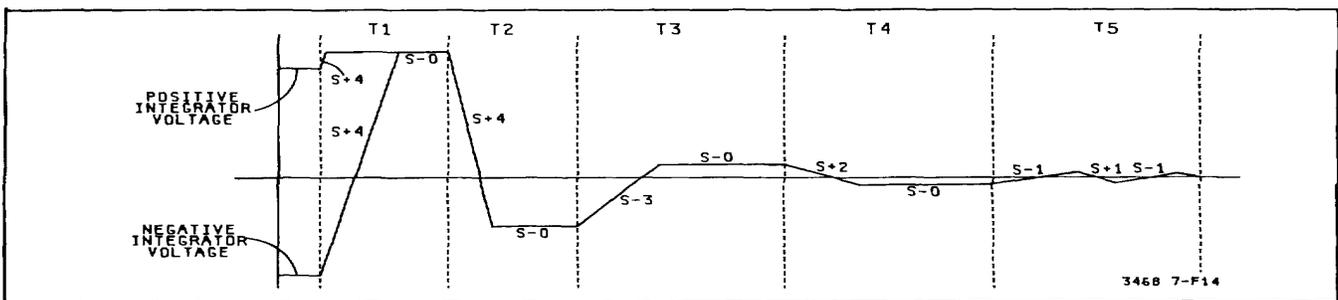

Figure 7-F-14. Rundown Slopes
b. If it has been determined that the remaining voltage on the integrator is negative, S-4 currents are applied a number of times until zero crossing occurs (CMP output changes state). Since the S-4 currents can be applied (during time T1 in Figure 7-F-14) to a maximum of three ramps, the resultant output slope S-4 will normally cross zero with three or less S-4 currents applied. After zero crossing occurs, the current is removed with 15 ALE cycles (i.e. one half-ramp) after the S-4 slope crosses zero. If (after the current is removed) time T1 is not completed, a no current condition remains (i.e. an S-O slope) for the rest of time T1. No current is applied to keep the rundown time constant.